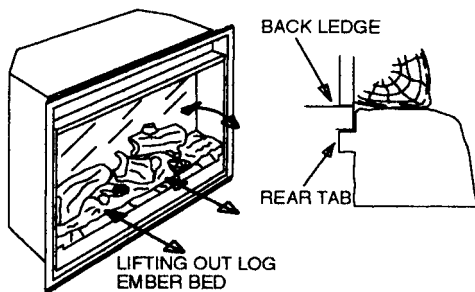

FIGURE 11
1. Carefully lift up front edge of log ember bed until it clears the front tabs. Pull out until the rear tab clears the back ledge, then lift out.(FIGURE 11)
5. Replace the log by pushing it down and in until it rests against the mirror.(FIGURE 11)